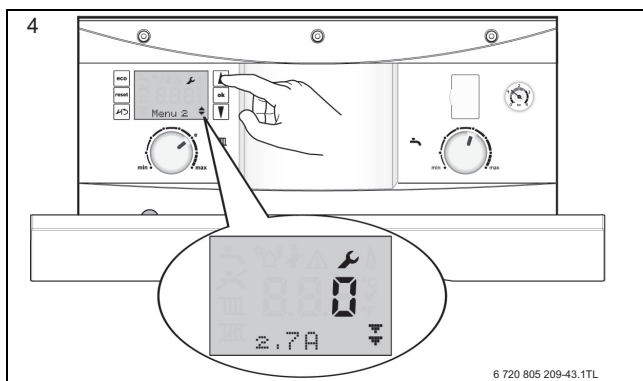

Fig. 73
- 4. Select the desired menu option using the arrow buttons (refer to figure 73) and press the OK button, the option will flash.